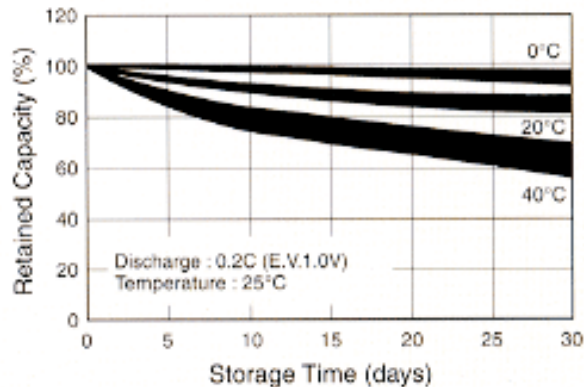

Figure 2-9. NiMH Battery Storage Characteristics
It is normal for NiMH batteries to self-discharge during storage (Figure 2-9) and to degrade to 80% of original capacity after 12 months of continuous use.
- Storing the battery in extreme hot or cold places will reduce the capacity and lifetime of the battery. The battery will discharge faster at higher ambient temperatures (see Figure 2-9).